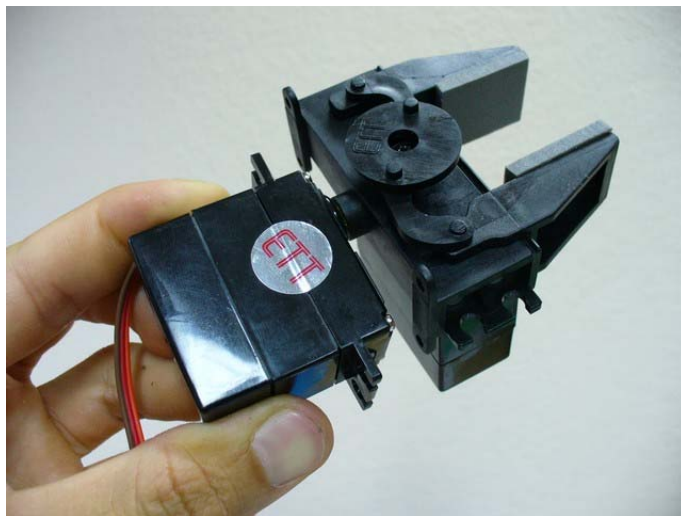

Figure 4 The servo motor #6 that used to open/close the gripper is installed
2. Unscrew and remove the horn set piece out from the servo motor #6 (Item 1). Make both the servo motor and the gripper in their center positions. Then insert the servo motor into the position. Make sure that the gripper can fully open and close. Put the screw back in place. Figure 4 shows the gripper after the servo motor #6 is installed.